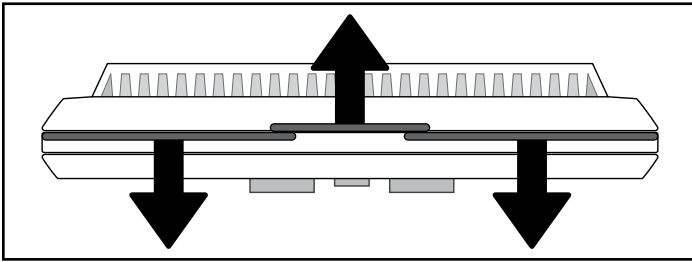

Figure 22.1
1. Separate the body of the thermostat from the mounting plate by gently pulling the two pieces apart (**Figure 22.1**)`